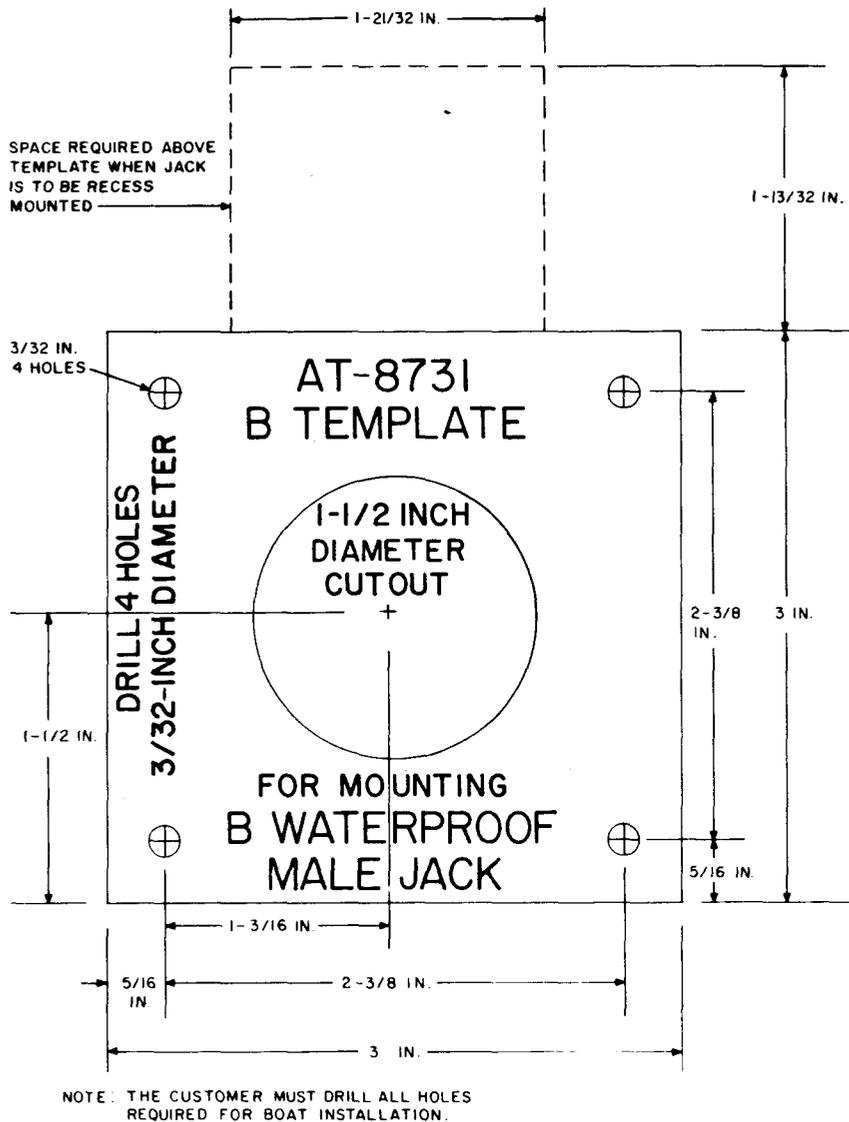

Fig. 16—B Template for Use on a Boat
(j) Template, B (for use on boat, Fig. 16).
2.12 The B template (Fig. 16) is used on boats to locate the pilot holes for the mounting screws and the clearance hole for the body of the B waterproof male jack. The template has been redesigned to
- One B template (for cutting mounting holes for jack on boat, Fig. 16)